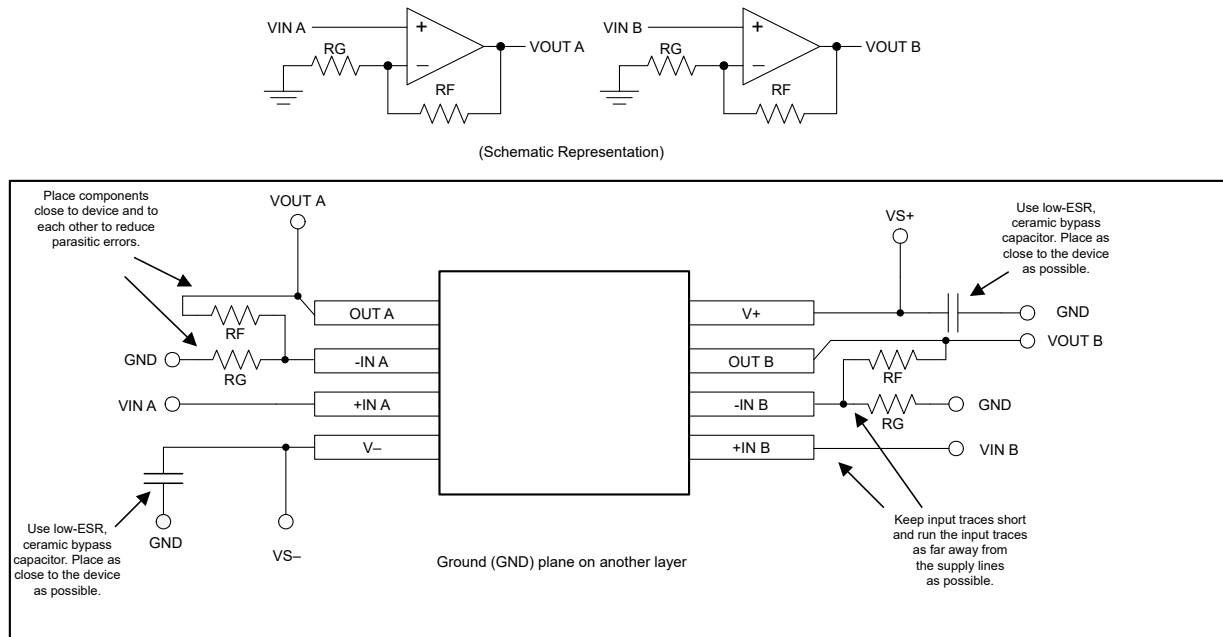

Figure 8-8. Layout Recommendation for TLV2365 SOIC Package
- Place the external components as close to the device as possible. Figure 8-8 shows that keeping R_F and R_G close to the inverting input minimizes parasitic capacitance.